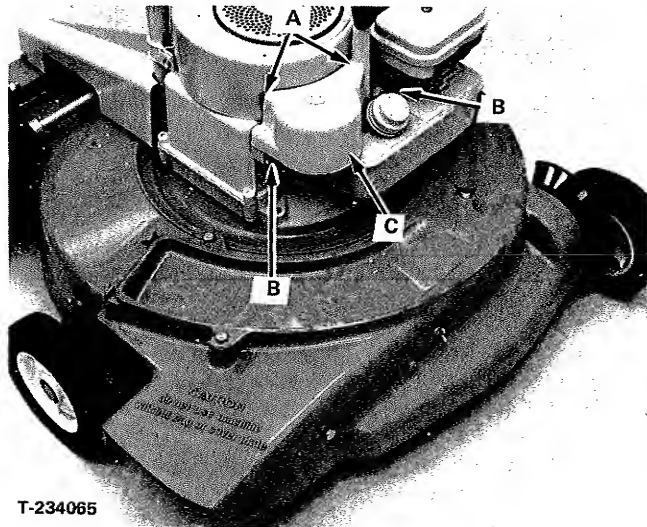

FIGURE 12 - REMOVING THE BLOWER HOUSING
1. To remove the blower housing, first remove two screws (B, Figure 12) which attach cover (C) to engine. Remove the three screws (A, Figures 12 and 12A). Lift housing to remove.